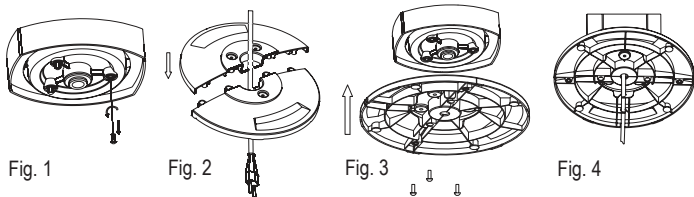

Fig. 1 Fig. 2 Fig. 3 Fig. 4
- Remove the three screws from the bottom of the tower fan using a crosshead screwdriver and put the screws aside (fig. 1). Feed the power cable (2) through the middle of the foot and then stick the foot together. Make sure the flat side with the rubber feet is down (fig. 2).